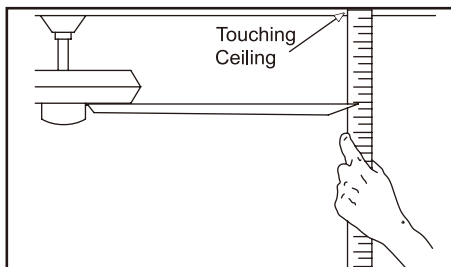

Figure 15
- Most fan wobble problems are caused when blade levels are unequal. Check this level by selecting a point on the ceiling above the tip of one of the blades. Measure from a point on the center of each blade to the point on the ceiling. Measure this distance as shown in Figure 15. Rotate the fan until the next blade is positioned for measurement. Repeat for each blade. Measurements deviation should be within 1/8". Run the fan for 10 minutes.